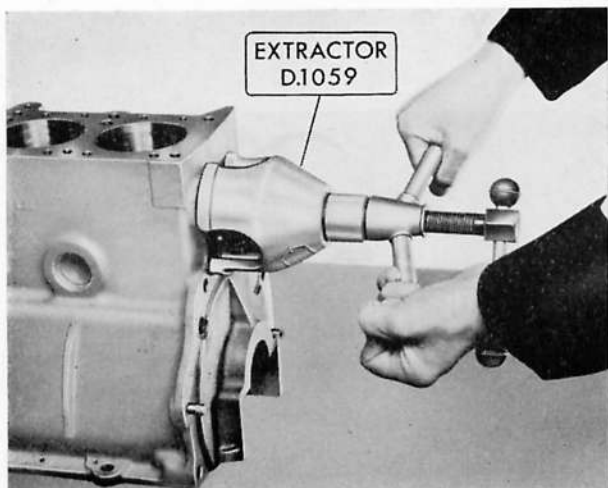

Fig. A.47. Removing a cup plug
1. Remove the cup plugs from the cylinder block (Fig. A.47). Flush out sediment from the water jackets.